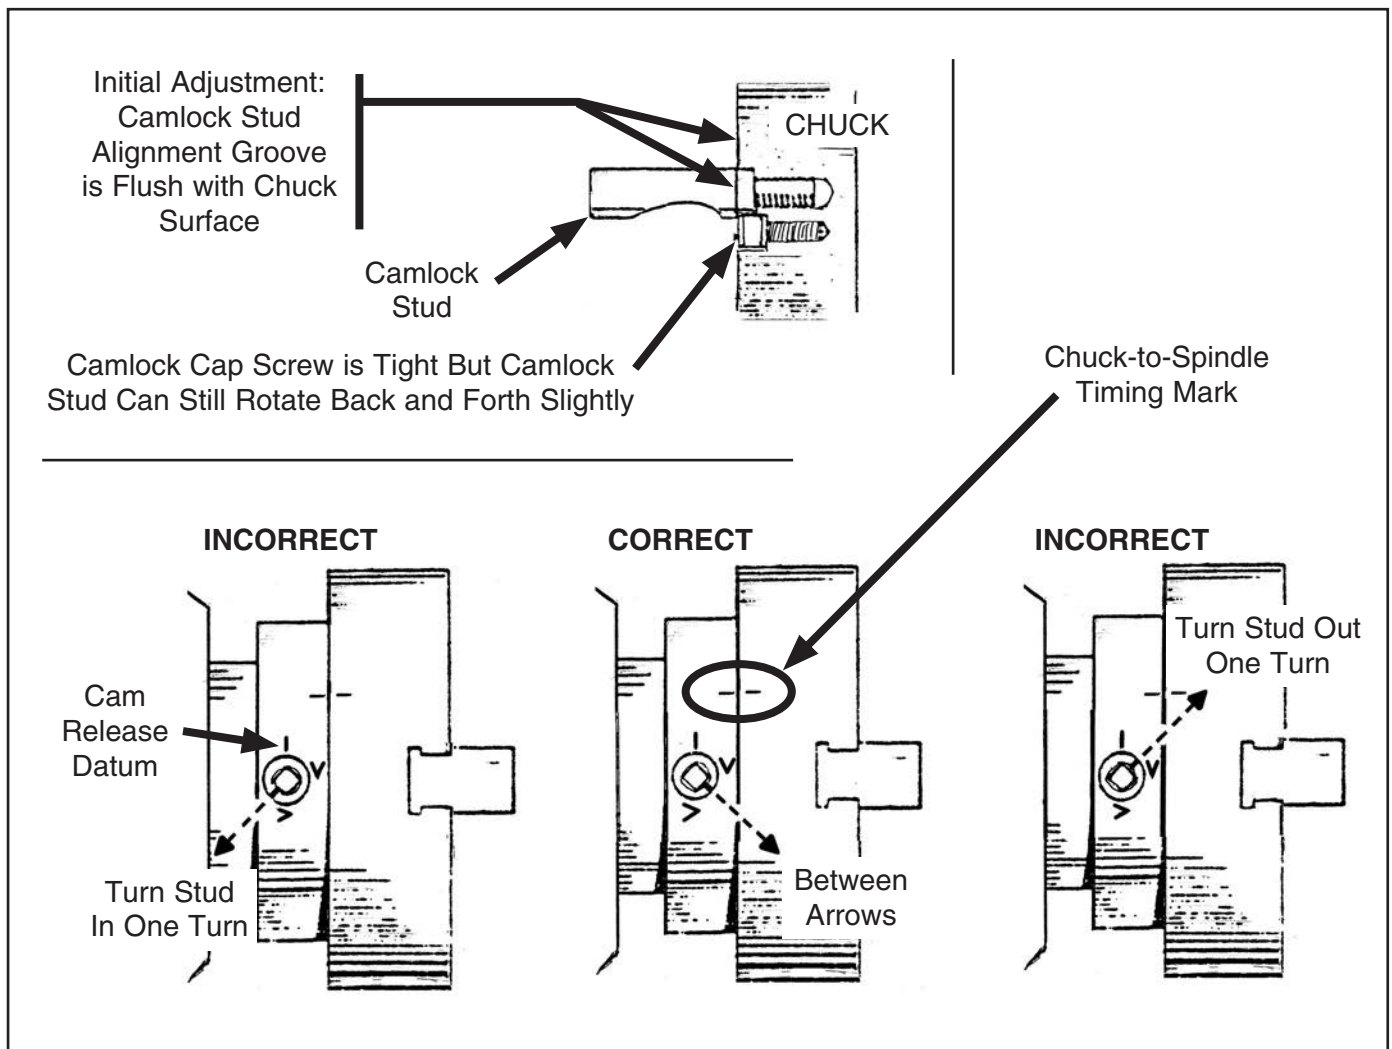

Figure 19. Camlock stud alignment.
6. Align the chuck-to-spindle timing marks (**Figure 19**), and slide the chuck onto the spindle.
In order to properly install or adjust one or more camlock studs, you must remove a stud locking cap screw, then thread the camlock stud in or out until the line on the side of the stud is flush with the top of the chuck casting (Figure 19). This is an initial adjustment.
If this is the case, you will have to remove the chuck and fine-tune the camlock stud adjustment. See Figure 19 for which direction to turn the camlock studs.